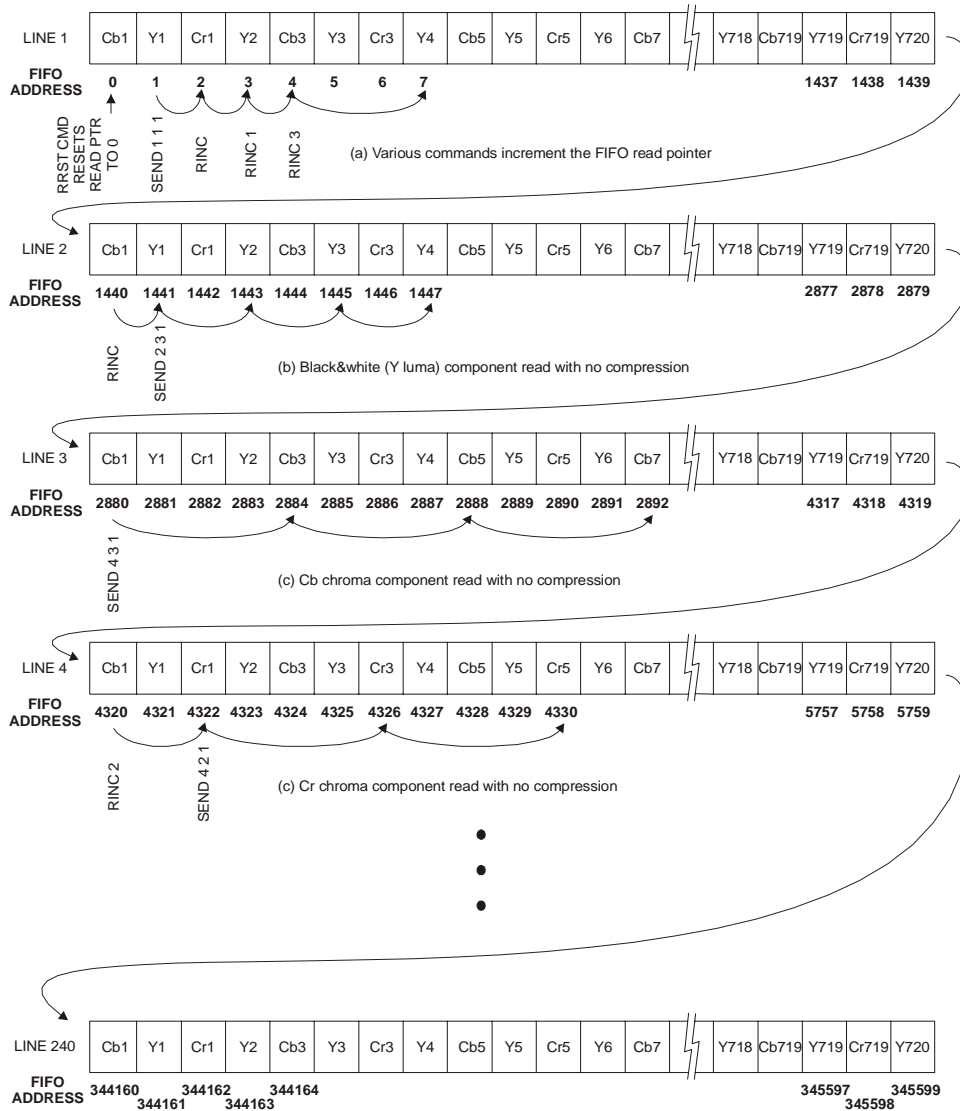

Figure 9: Internal layout of the uCFG's FIFO field buffer
Figure 9 shows the physical layout of the uCFG's internal FIFO buffer. As shown, the FIFO is a byte-wide uninterrupted memory buffer accessible with the help of a read pointer (used to index the memory location to read). For simplicity, the FIFO in Figure 9 has been split up into separate video lines even though all the data is actually continuous inside the FIFO. As can be seen, one line (720 pixels wide) of video data actually occupies 1440 bytes of physical FIFO space. Note that every second luma (Y) sample is surrounded by its chroma (Cb, and Cr) color components which are co-sited in space (i.e. belong to the same pixel). Every other luma sample is alone (due to the 4:2:2 chroma decimation).
The host controller is in full control of the FIFO access operations and readout. In fact, the host is responsible for issuing the appropriate commands to skip data samples when it requires image decimation. A number of example commands are illustrated in Figure 9 as well as their effect on the read pointer. (a) Different commands increment the read pointer directly. RRST resets the pointer to 0, the start of the FIFO. SEND 1 1 1 simply reads the current byte and increments the pointer by 1. RINC with no parameters assumes 1 by default and increments the pointer. RINC with parameters increments the pointer by the specified amount. (b) To download a black & white image only (the luma component of the color image) at the full 720 resolution, simply position the read pointer on the first luma sample of interest with RINC and issue a SEND 2 n 1 where n is the number of bytes to read. Here the command will read and return every 2nd sample until a total of n bytes have been returned on the serial port. To read a ½ decimated version, use the SEND 4 n 1 which skips every 2nd luma (i.e. return every 4th sample). The possibilities are quite numerous. (c) & (d) Illustrates color component download. Simply position the pointer to the appropriate starting position and issue a SEND 4 n 1 to read out every 4th sample.